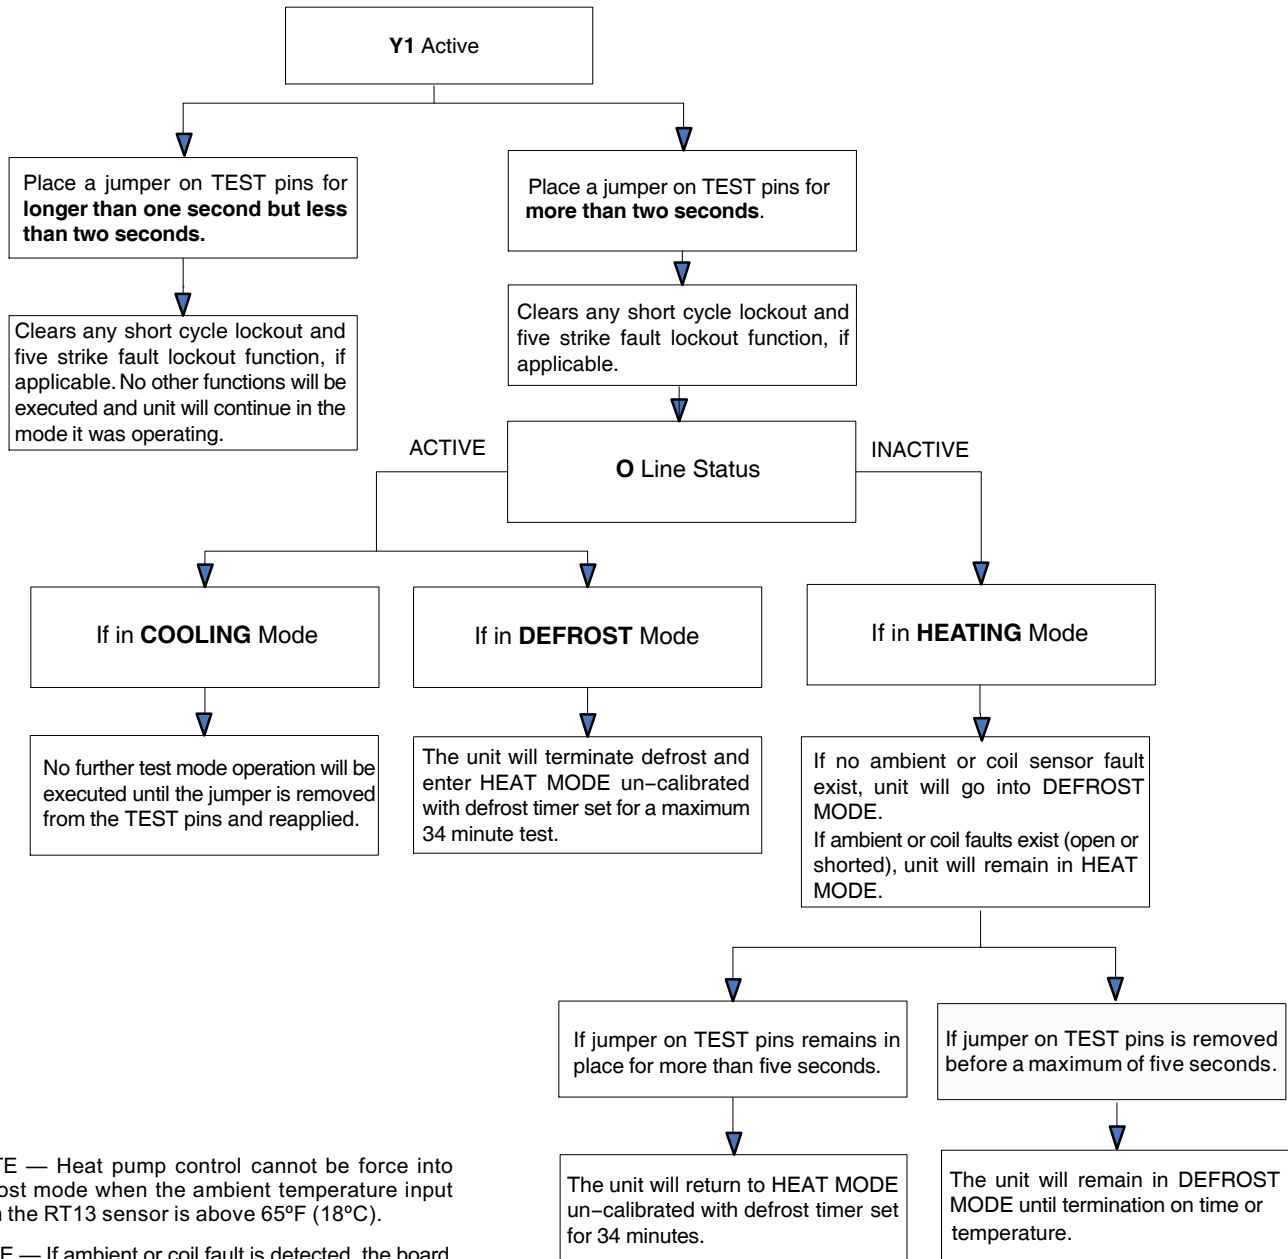

Figure 28. Heat Pump Control's Multi-Function Test Pins (E33)
- Defrost test (see figure 28)